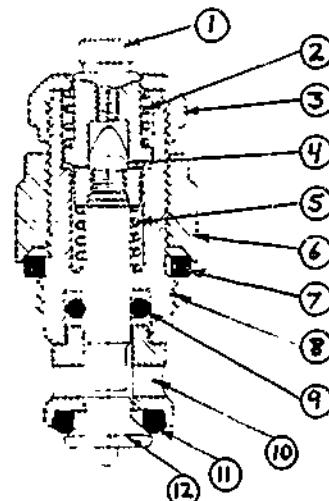

Figure 23-8. Cross-Sectional View of Crane Magicclose Faucet
14. Crane also makes a faucet similar to the Dial-Ese from the exterior, but which is called a Magicclose faucet (Figure 23-8). Components of the Magicclose cartridge are as follows: